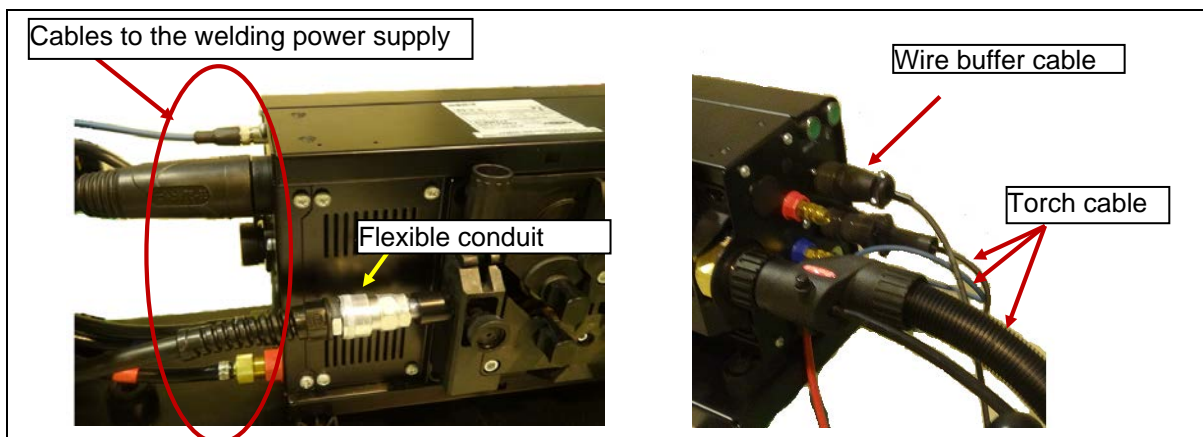

Fig. 7.9 Replacing the wire feeder
- 1 Remove the flexible conduit of the wire feeder referring to Fig. 7.9, cut the wire, feed the wire until it does not come from the roller part, then pull out the wire from the tip end.